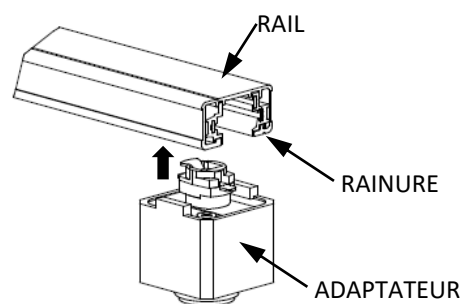

Fig. 4
1. Orient ADAPTER with TRACK as shown in FIG 4.